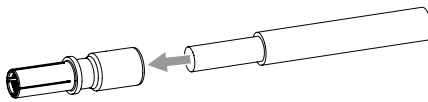

Fig. 30:
1. Push the bare cable braid into the connection area of the contact (Fig. 30).